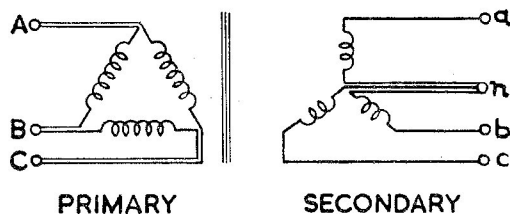

Fig. 3. Circuit diagram
5. The leads from the coils are soldered to tags on the terminal board, which are marked A, B and C for the primary connections and a, b, c and n for the secondary connections (fig. 3).
6. The overall and fixing dimensions of the transformer are given in fig. 2, whilst the circuit diagram is shown in fig. 3.